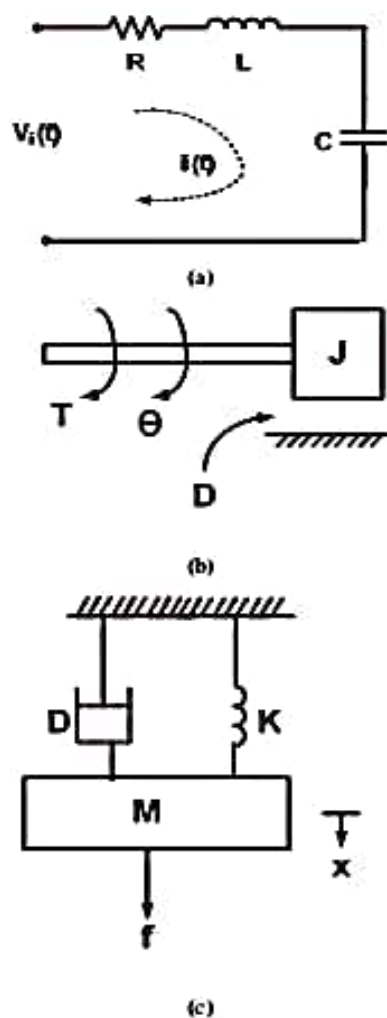

Fig.4.12. (a) a voltage-source electrical system, (b) a translational mechanical system and (c) a rotational control system
**4.3. Analogous system:** Fig.4.12 shows a translational mechanical system, a rotational control system and a voltage-source electrical system.
From Fig.4.12 (a), (b) and (c), we have